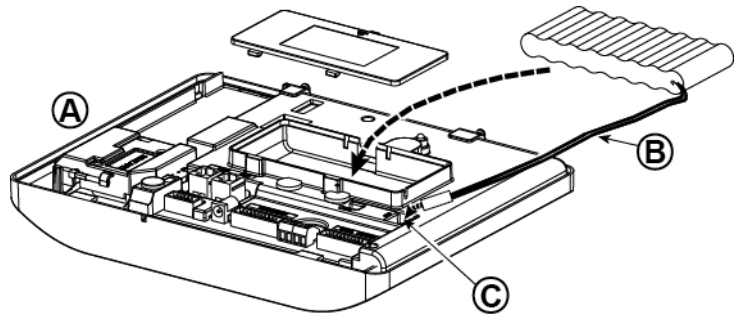

Figure 4.11 – Battery Insertion
Insert one 6-battery pack or 8-battery pack and connect its connector as shown in Figure 4.11.
Connect power to the PowerMaster-30 G2 temporarily (see Figure 4.10). Alternatively, you may power up from the backup battery, as shown in Figure 4.11.
- Please refer to Figure 4.11 "Battery Insertion".